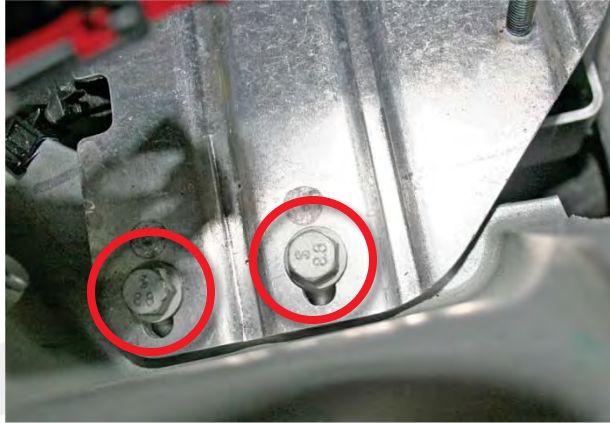

Figure 21
29. Install the 2 bolts that secure the upper bracket to the shock tower (torque 6 Nm) (Figure 21).